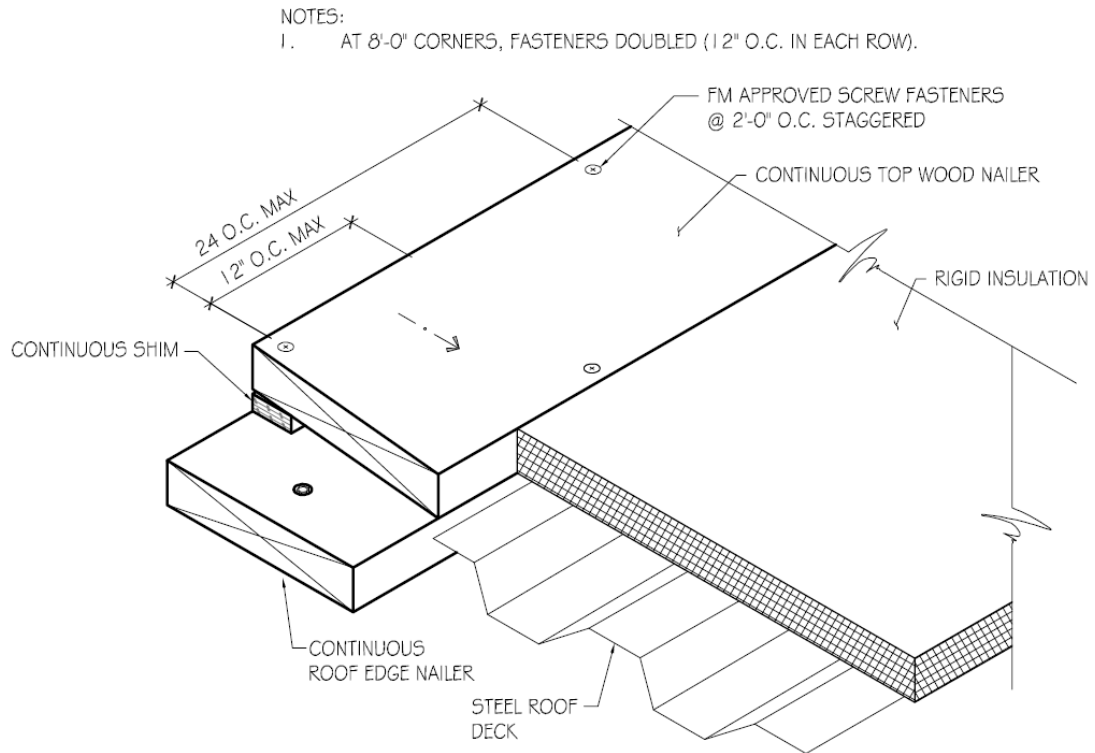

FIGURE 5
An alternate method may be used by installing 3/8 inch diameter anchor bolts spaced 32 inches apart. For outside corners, bolts are fastened 16 inches apart, 8 feet from each side of the corner. If additional wood nailers are needed, refer to **Figure 5** for attachment of additional wood nailers.
- When additional wood nailers are required, they must be attached with galvanized nails or lag screws that penetrate into the bottom nailer at 1-1/4 inches using a staggered fastening pattern in two rows at 24 inches apart as shown in **Figure 5**.
nailers should be refastened using one of these options and additional wood nailers must be secured following **Figure 5**.